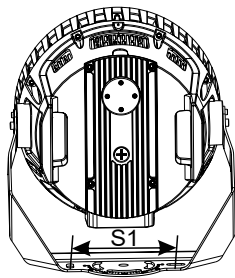

Figure 5
1. Mark the hole distance S1 shown in the product to be installed (Figure 5).